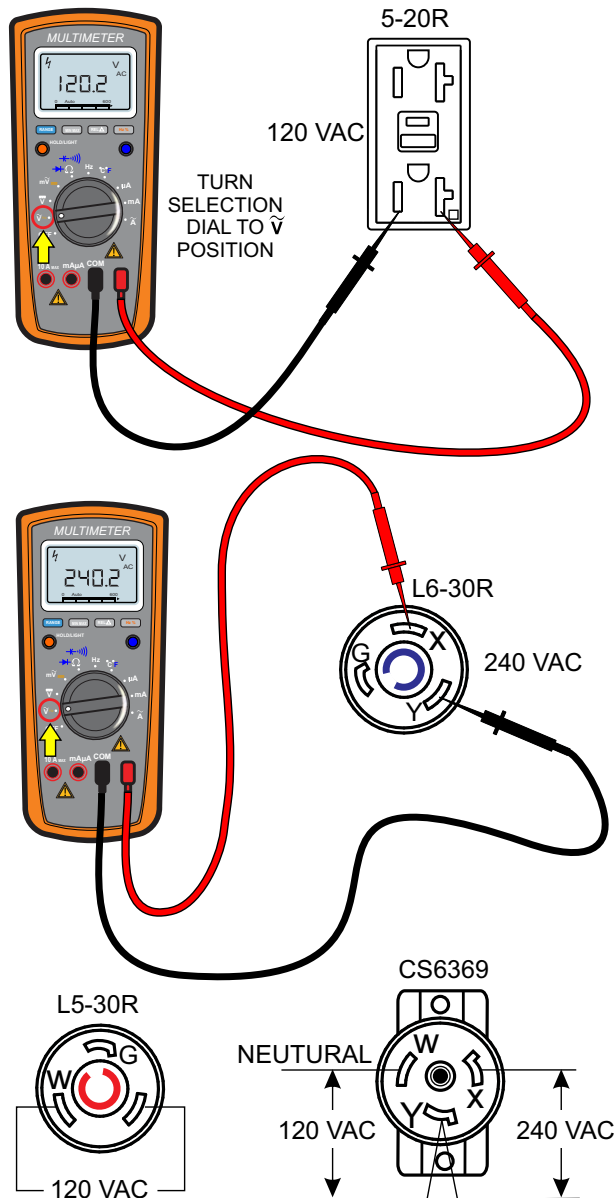

Figure 91. Auxiliary Receptacles Voltage Measurement
11. If desired, a multimeter can be used to measure the AC voltage output at the auxiliary receptacles as shown in Figure 91. Make sure to place **all** auxiliary circuit breakers in the **ON** position before taking the voltage measurement.